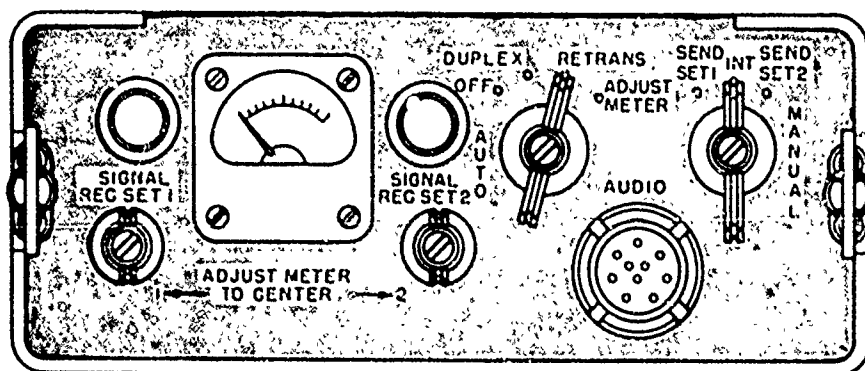
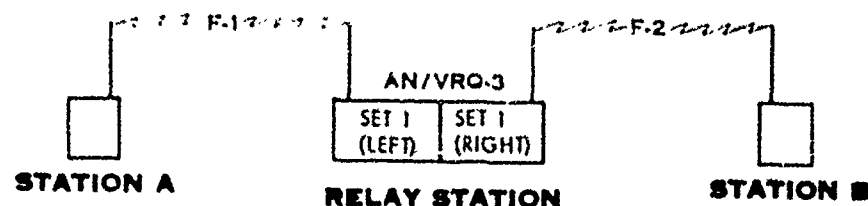

Figure 4-18. Control C-435/GRC Control Panel.
Figure 4-20. Block Diagram, Retransmission.
(1) Radio Sets AN/GRC-7, AN/GRC-8 and AN/VRQ-3 (and their counterparts as used in the Armor and the Artiller) are capable of automatic retransmission, in that signals received by one set (Set 1) are retransmitted by the other set (Set 2) on a different frequency, and vice versa.
(2) Retransmission is normally initiated by a push-to-talk contact from one station to another station that is to act as the relay terminal. When this type of operation is desired, refer to the block diagram (Figure 4-20) and the control panel of the C-435 (Figure 4-18). Follow the steps outlined below: